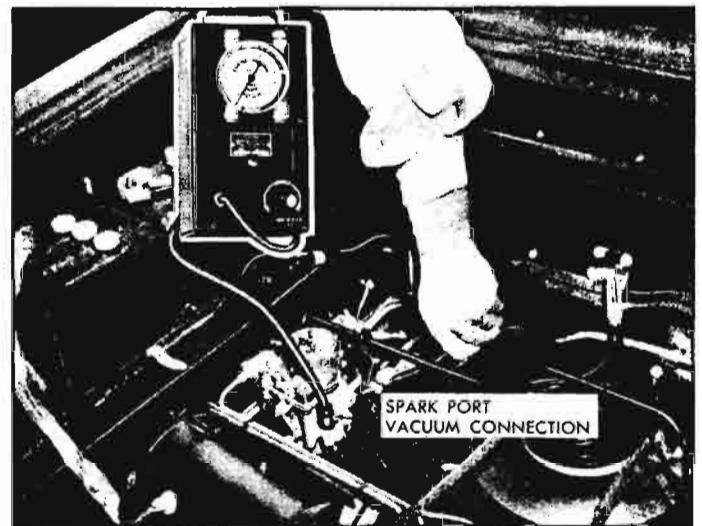

Fig. 9-13—Spark Port Vacuum Connection
- a. Remove distributor vacuum advance hose from right hand carburetor and plastic cap from left hand carburetor spark port adapter tubes (fig. 9-13).